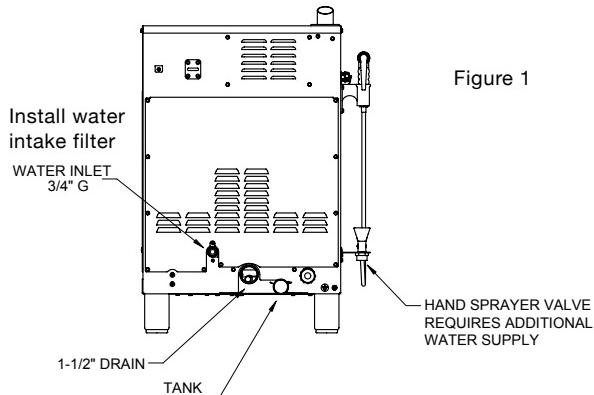

Figure 1
Install water intake filters (provided) [see Figure 1] before connecting the oven to the water supply.
**REFER TO FIGURE 1 ABOVE FOR PROPER INTAKE LOCATIONS.**